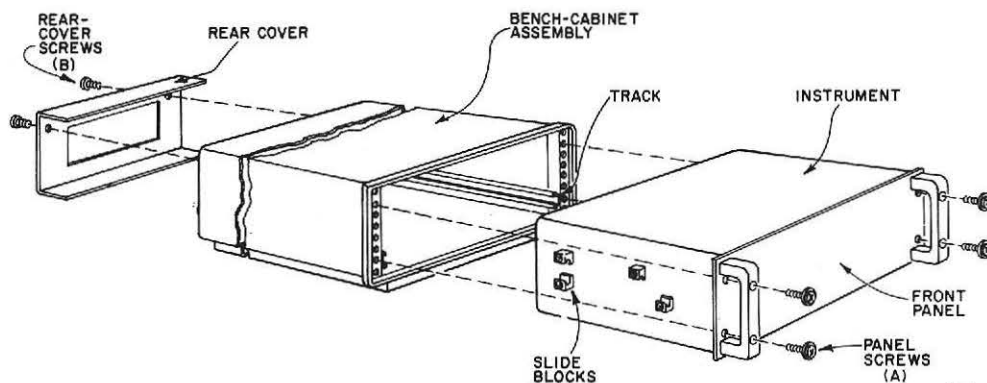

Figure 2-2. Bench-cabinet installation.
- Remove the rear cover from the bench cabinet, with screws (B Figure 2-2) , for later installation on the rack cabinet.